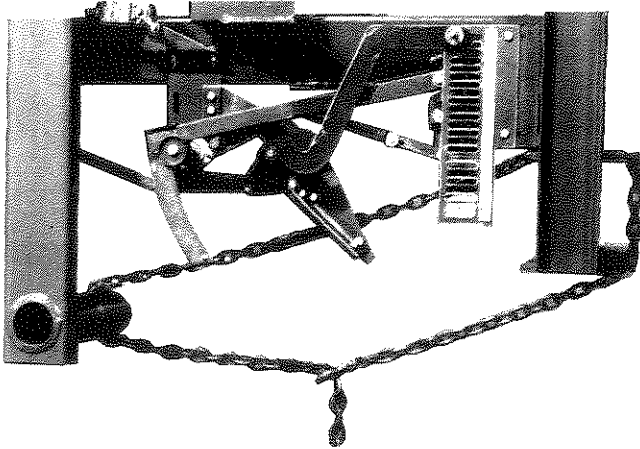

Fig. 56
8. To prevent the knotter from moving in reverse, strap a $\frac{3}{8}$ " chain around the middle of the needle yoke to the frame, see Fig. 56. **NOTE:** Ensure that the $\frac{3}{8}$ " chain is in the middle of the needle yoke, this will prevent bending of the needle yoke.